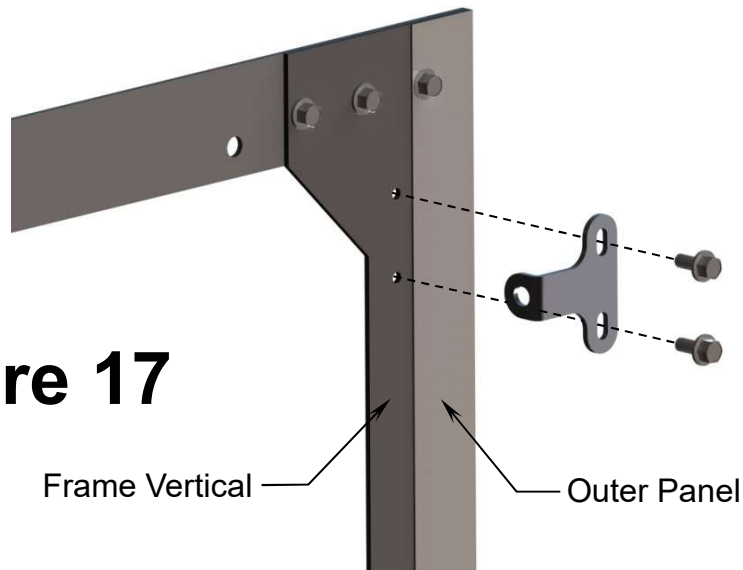

Figure 17
19. Position the Rod Bracket(D) on the frame vertical with the bend of bracket pointing as shown in Fig 17. Assemble to frame using (2) $\frac{1}{4}$ -20 self threading Hex Nuts(L).